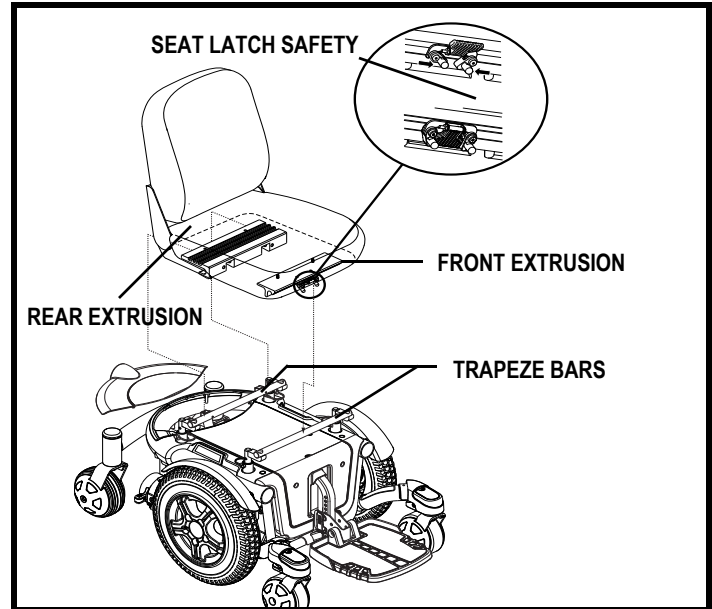

Figure 11. Universal Mounting System (Shown Without Armrests for Clarity)
It may be necessary to install the seat either prior to initial operation or after transporting your power chair. Most seats are attached to the power base with the Universal Mounting System (UMS). The UMS consists of universal parts that may be attached to the seat, regardless of seat width or seat depth. The two main components are aluminum extrusions mounted to the seat base. These extrusions attach to a pair of trapeze bars that are mounted to the power base. See figure 11.
1. Tilt the seat back and slide the rear extrusion onto the rear trapeze bar. See figure 11.
4. Flip up the seat latch safety. See figure 11.